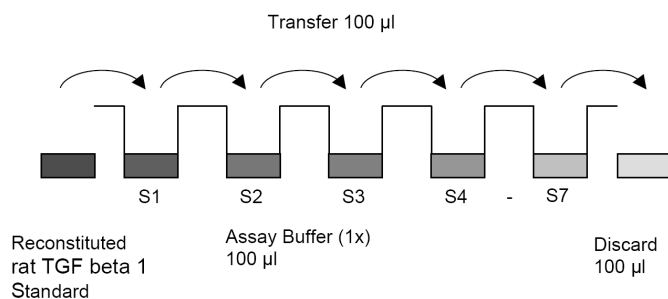

Fig. 8 Dilute standards - microwell plate
- Standard dilution on the microwell plate (Alternatively the standard dilution can be prepared in tubes – see “External standard dilution” on page 4): Add 100 µL of Assay Buffer (1x) in duplicate to all standard wells. Pipette 100 µL of prepared standard (see Preparation of Standard “Rat TGF beta 1 standard” on page 4, concentration = 4000.0 pg/mL) in duplicate into well A1 and A2 (see Table 1). Mix the contents of wells A1 and A2 by repeated aspiration and ejection (concentration of standard 1, S1 = 2000.0 pg/mL), and transfer 100 µL to wells B1 and B2, respectively (see Figure 8). Take care not to scratch the inner surface of the microwells. Continue this procedure 5 times, creating two rows of rat TGF beta 1 standard dilutions ranging from 2000.0 to 31.3 pg/mL. Discard 100 µL of the contents from the last microwells (G1, G2) used.